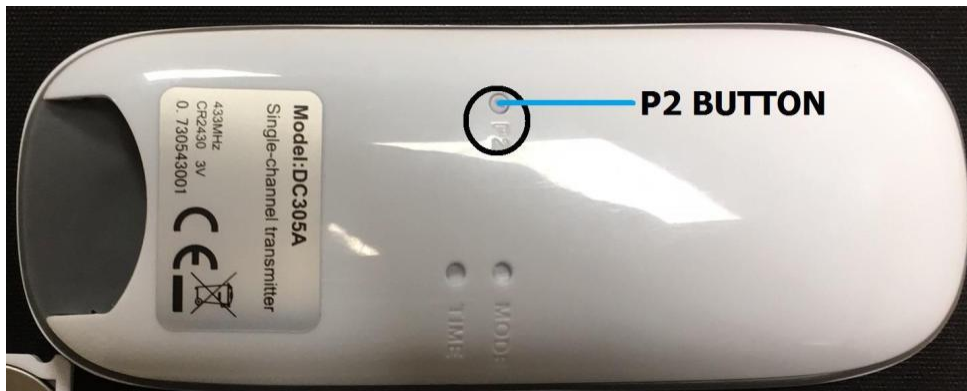

Figure 23
2. Push and slide out the battery cover of the new remote, make sure that the battery is properly installed and locate the **P2 button underneath the remote control**. See figure 23.